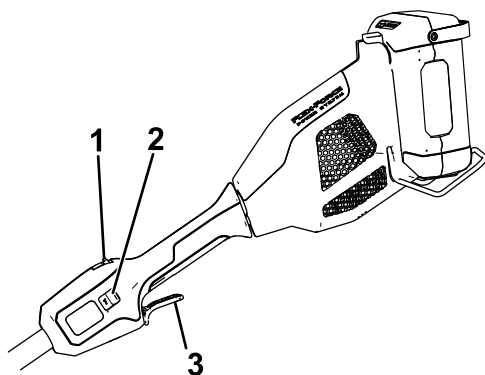

Figure 10
4. To start the trimmer, squeeze the lockout trigger, then squeeze the run trigger (Figure 10).